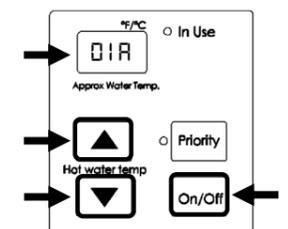

Figure 7: Controller Display
- Press the **A** button for 1 second. **01A** appears on the controller display (Figure 7).
- Press the **On/Off** button to change the selection between **06A** for BMS and **06b** for Air Handler (AH).